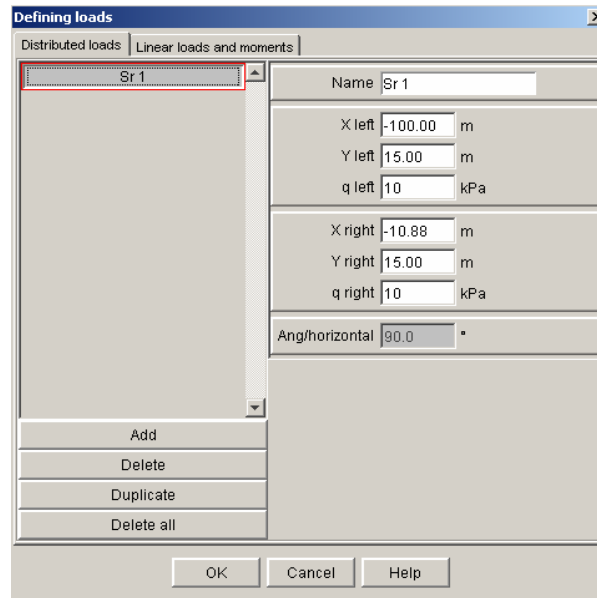

Figure 9: loads dialogue box, "Distributed loads" tab
- In order to input the load using the corresponding dialogue box (most similar way to previous Talren 97 version), or to complete the load definition with the load value: choose menu [Project Data] then option [Loads]. The window of Figure 9 is displayed ("Distributed loads" tab). If you already defined a load with the mouse, it will be displayed in the table.